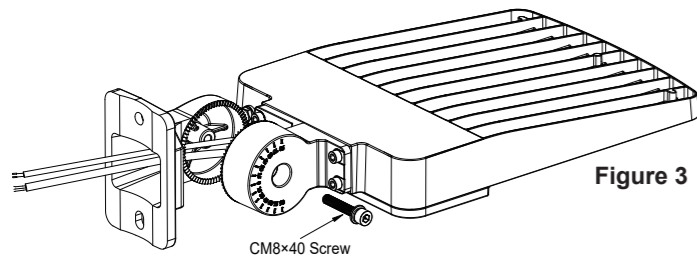

Figure 3
3. Feed Luminaire cord through SQA lower bracket. Secure the lower bracket to the upper bracket with CM8x40 screw, Figure 3.